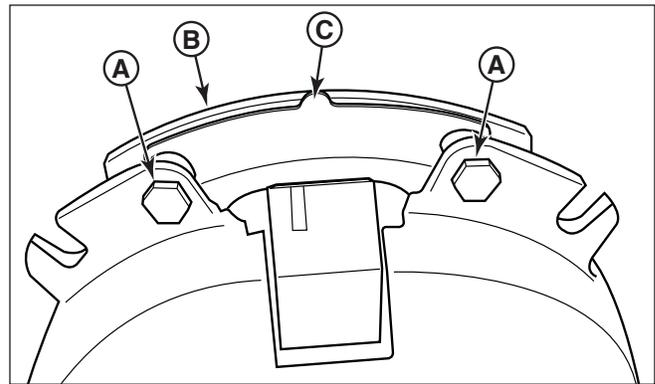
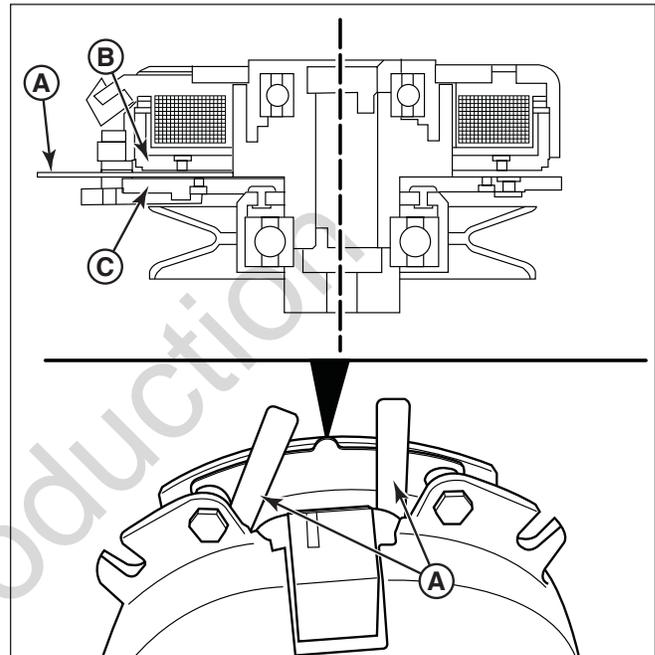
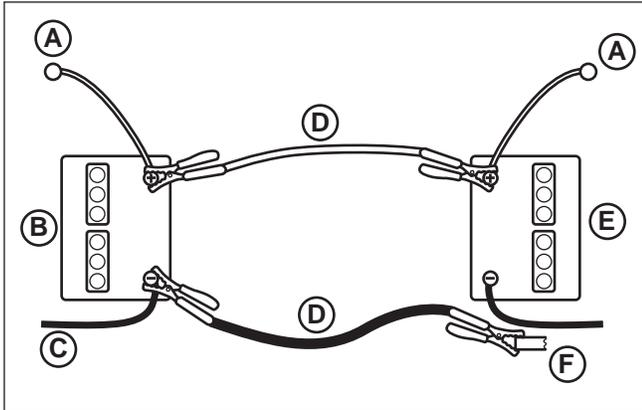

Figure 55. Electric PTO Clutch Brake Mounting Bolts
Figure 56. Electric PTO Clutch Gap Measurement with Feeler Gauge
Figure 57. Jump Starting
1. Loosen both brake mounting bolts (A, Figure 55) 1/2 to 1 full turn as shown in Figure 55.
*NOTE: Do not remove the brake pole (B) from the electric PTO clutch. The brake pole **must** remain in the correct position to ensure proper brake torque.*
2. Using needle nose pliers, grasp the tab of the re-gap shim (C) and remove the re-gap shim from the electric PTO clutch.
4. Using a .010" thick feeler gauge (A, Figure 56), verify that the gap is present between the rotor (B) and armature face (C) on both sides of the brake pole as shown in Figure 57.
Jump starting is not recommended. However, if it must be done, follow these directions. Both booster and dis-charged batteries should be treated carefully when using jumper cables. Follow the steps below EXACTLY, being careful not to cause sparks. Refer to Figure 57.